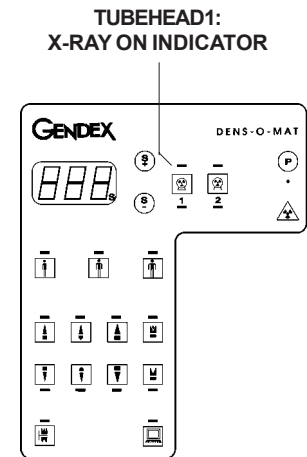

Figure 2
- 4) Press exposure button and verify that the “X-ray ON” indicator (see figure 2) of the Tubehead 1 should light and X-ray buzzer signal is audible during exposure.